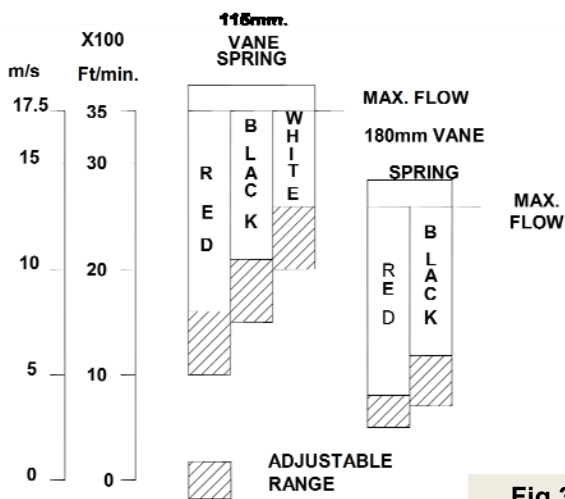

Fig 3
Fig 3 gives an indication of flow rates covered by the 2 vane sizes. Reference to this will help select which vane to fit before setting.
4. Alternative springs are supplied to cover the full range of operation from 2.5 to 12.5 metres/second (fig 3). These may be used singly or in pairs as the user desires, provided the lowest setting is sufficient to return the vane safely on no flow. Each spring may be adjusted via an M4 hexagon screw, rotating clockwise to increase tension and thus reducing flow sensitivity.